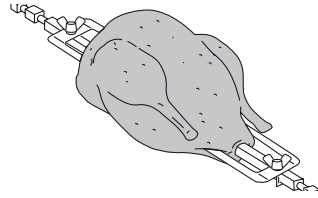

fig. 2
- Next, install the fixing the screws to secure the meat or poultry to the rotisserie spit (Fig. 2).